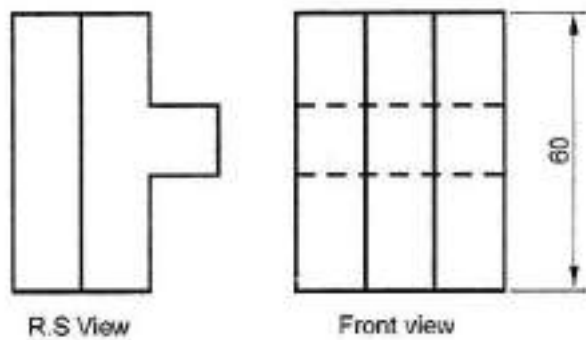

Fig:1
5. Draw the missing top view of the object shown in Fig: 1.